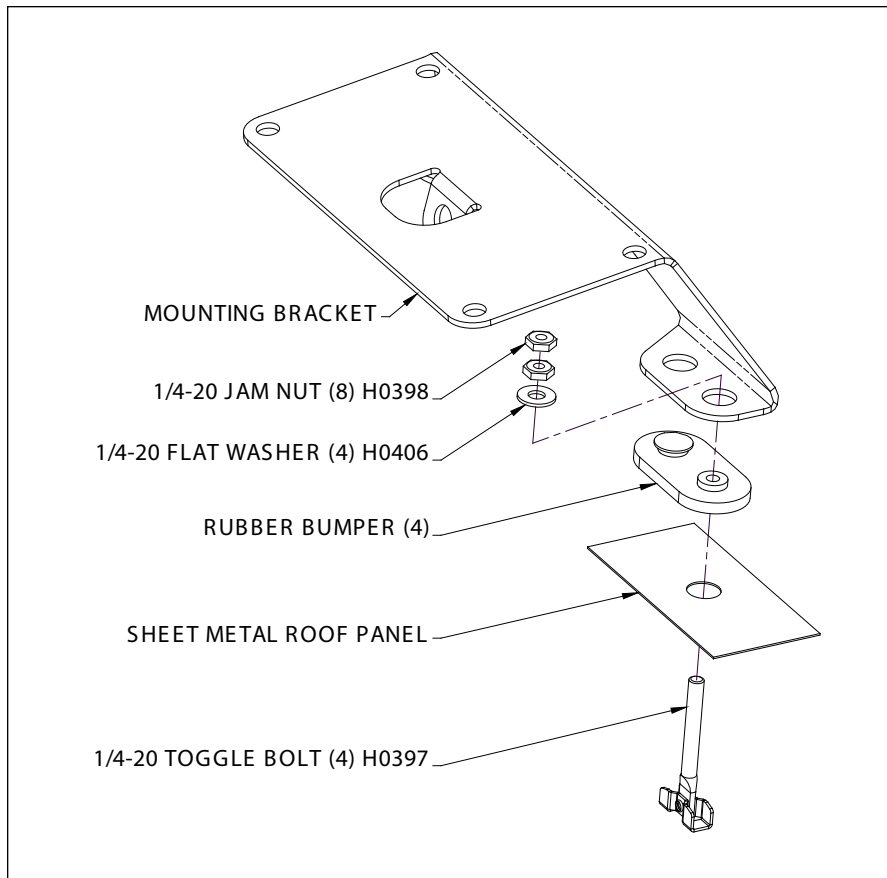

Figure 3
Check to see that all components shown in Figure 3 are included.
- L. Install one 1/4-20 flat washer and two 1/4-20 jam nuts on the toggle bolt at each cut head on the rubber bumpers. Tighten lower jam nut to snug condition: no visible play of mount foot or rubber bumper. Lock lower jam nut with upper jam nut. NOTE: Two (2) jam nuts must be used in a double nut configuration on each toggle bolt to ensure safe installation of the light bar. See Figures 3 and 4.